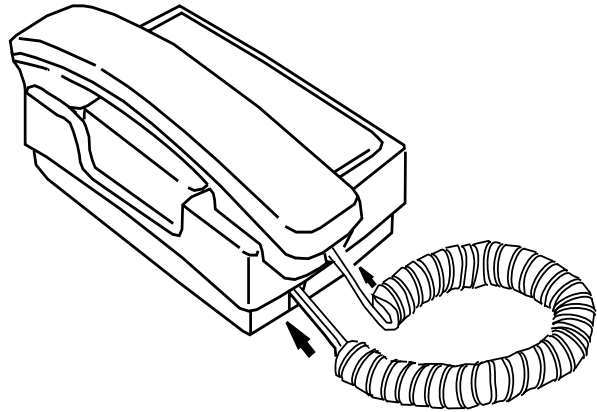

Fig. C.3.2
- (1) After having taken out the telephone set, telephone handset and curled cord from the carton box, connect them as show in Fig. C.3.2.